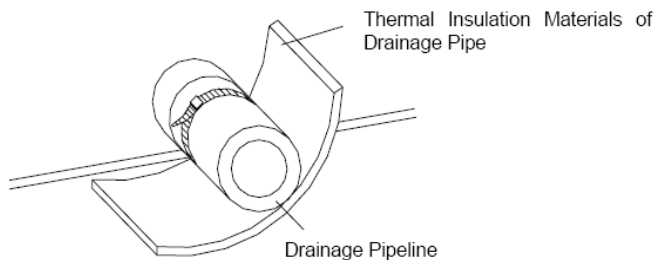

Fig.44 Thermal Insulation of Drainage Pipeline
(1) The Drainage Pipeline shall be installed with an inclining angel of $5\sim 10^{\circ}$, so as to facilitate the drainage of condensate. The joints of the Drainage Pipeline must be covered by thermal insulation materials to avoid generation of exterior condensate. (As shown in Fig.44)
(2) A Drainage outlet is located at both the left and right sides of the indoor unit. After selecting one Drainage outlet, the other outlet shall be blocked by rubber plug. Bundle the blocked outlet with string to avoid leakage, and also use thermal insulation materials to wrap the blocked outlet.
(3) When shipped out from factory, both the Drainage outlets are blocked by rubber plugs.
(4) When connecting the drainage pipe with the unit, do not apply excessive force to the pipeline at the side of the unit. The fixing position of the pipeline shall be near the unit.
(5) Purchase general-purpose hard PVC pipe locally to be used as the drainage pipeline. When carrying out connection, place the end of the PVC pipeline into the drainage hole. Use flexible drainage tube and tighten it with thread loop. Never use adhesive to connect the drainage hole and the flexible drainage tube.
(6) When the laid drainage pipe is used for multiple units, the common pipe shall be about 100mm lower than the drainage outlet of each set of unit. A pipe with thicker wall shall be used for such purpose.